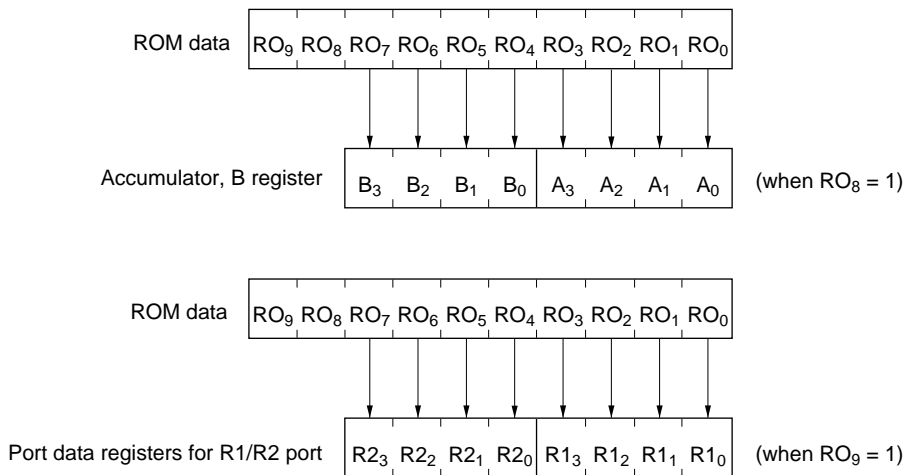

Figure 3-4 ROM Data Reference Using the P Instruction
The HMCS400 CPU supports the four ROM addressing modes shown in figure 3-3. The HMCS400 CPU also supports, as a special case, access to ROM data at addresses determined by table data addressing using the P instruction. (See figure 3-4.)
(4) Table Data Addressing Mode: Table data addressing mode instructions consist of one word. The lower 4 bits, which follow the 6-bit opcode, in conjunction with the contents of the accumulator (A) and the B register (B), form a 12-bit ROM address.
(5) P Instruction: The P instruction is used to access ROM data at an address determined by table data addressing. The upper two bits of the referenced ROM data are used to determine where the lower 8 bits will be transferred. If bit 8 is 1, the data is transferred to the A/B pair, if bit 9 is 1 the data is transferred to the R1/R2 port data register (PDR) pair. (See figure 3-4.) If both bits 8 and 9 are 1, the data is transferred to both the A/B pair and the R1/R2 port PDR pair. The PC is not influenced by the execution of a P instruction.